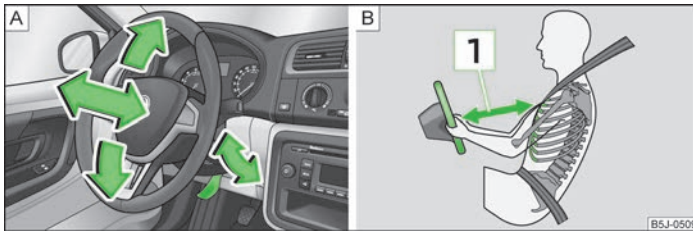

Fig. 78 Adjustable steering wheel: Lever below the steering column/safe distance to the steering wheel
- Maintain a distance of 25 cm **1** to the steering wheel » Fig. 78 on page 77 - **8**. Not maintaining this minimum distance will mean that the airbag system will not be able to properly protect you - hazard!
- Pull the lever below the steering wheel down » Fig. 78 - A.